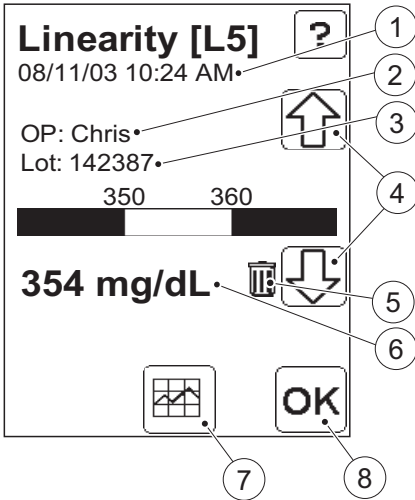

FIGURE 7-15
- a) To view categories not initially visible, press the Scroll bar arrow (6).
- c) All QC tests within the selected category and the defined date interval will be available for review. The latest test is displayed first. For Level 1, Level 2, Level 3, Level 4 and Level 5 see *FIGURE 7-12*. For Linearity see *FIGURE 7-15*. For Proficiency see *FIGURE 7-17*.
All categories of QC data within the defined date interval will be available. The different images possible are described in *FIGURE 7-12*, *FIGURE 7-15* and *FIGURE 7-17*.